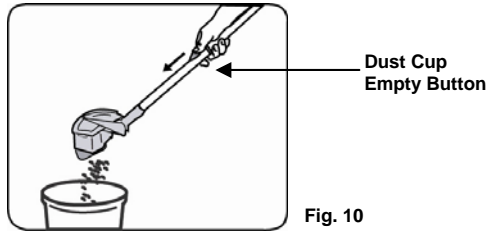

Fig. 10
2. Lift out the dust cup container, which is connected to the handle. Hold over a trash bin and push down on the dust cup empty button located on the handle. (Fig. 10)